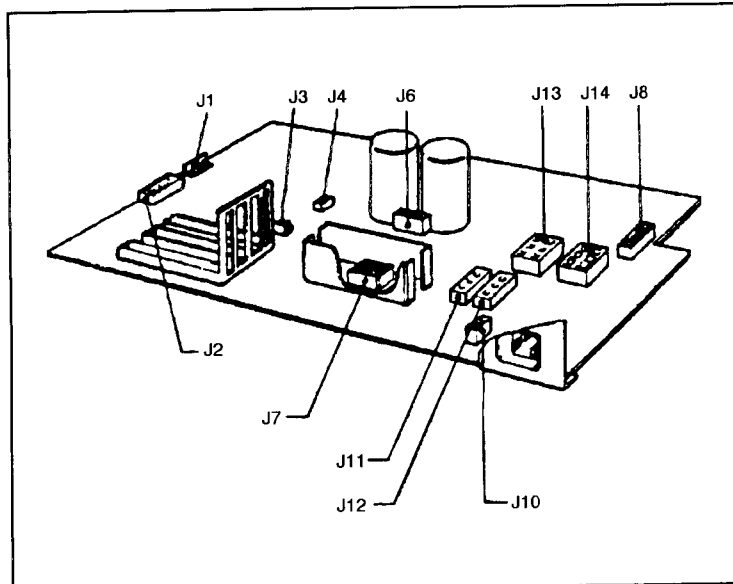

Figure 6-6. Analog/Backplane PCA Cable Connectors
- c. Disconnect all (11) cables from the connectors on the PCA (see Figure 6-6).
- b. Disconnect connector J7 (Stepper Motor) on the Analog PCA (see Figure 6-6).
- f. Disconnect the ribbon motor cable and the stepper motor cable from connectors J10 and J7 (see Figure 6-6) on the Analog/Backplane PCA.